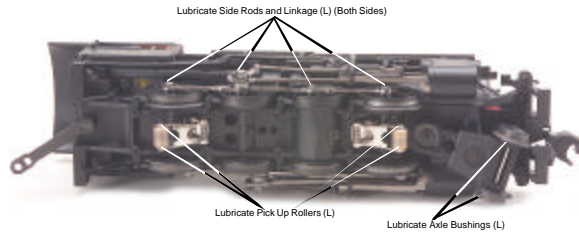

Figure 6. Lubrication Points on the Locomotive
1. Although the engine was lubricated at the factory, you should lubricate all side rods, linkage components and pickup rollers to prevent them from squeaking. Use light household oil and follow the lubrication points marked “L” in Fig. 6 on pg. 12. Do not over-oil. Use only a drop or two on each pivot point
You should regularly lubricate all side rods, linkage components and pickup rollers to prevent them from squeaking. Use light household oil and follow the lubrication points marked “L” in Fig. 6. Do not over-oil. Use only a drop or two on each pivot point.